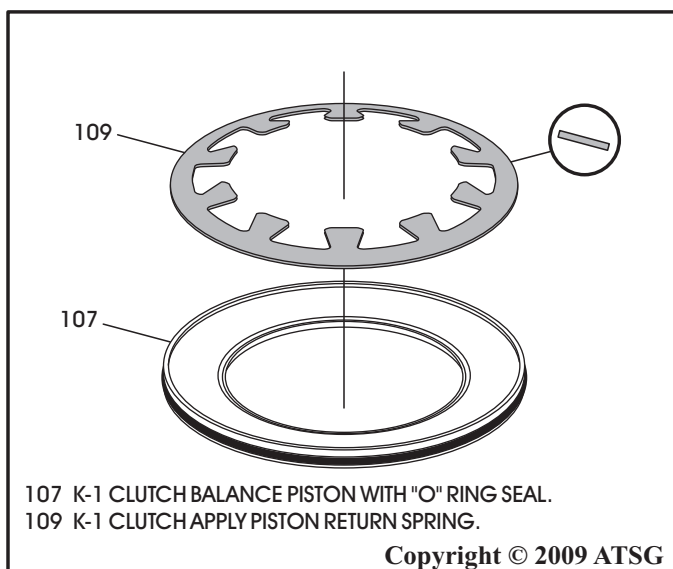

Figure 87
5. Turn the balance piston over and install the apply piston return spring in direction shown in Figure 87.